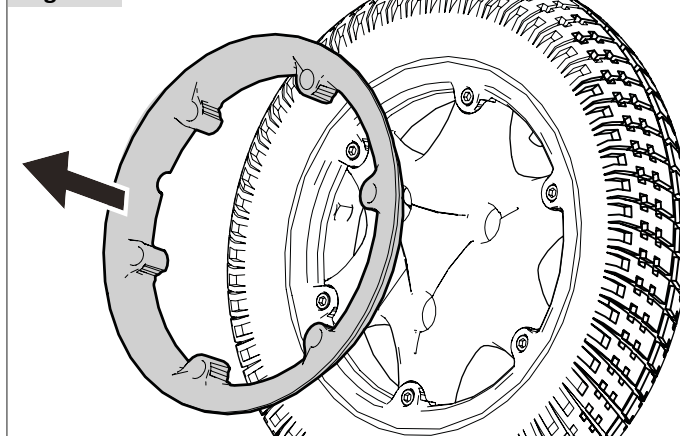

Fig. 8.2
- Use a 16mm AF socket to release 3 studs/lug nuts (Fig. 8.2).